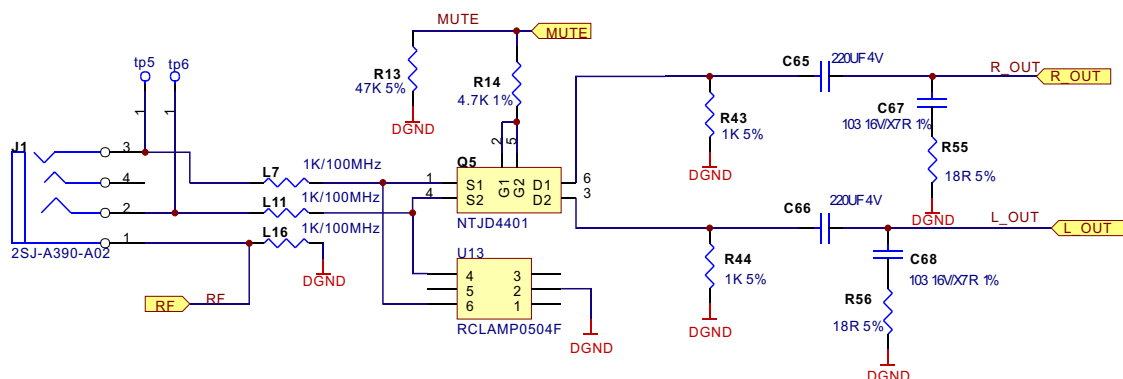

Figure 3.2.5.1 Headphone jack circuit schematic diagram
1. Headphone jack circuit is shown in the figure 3.2.5.1: